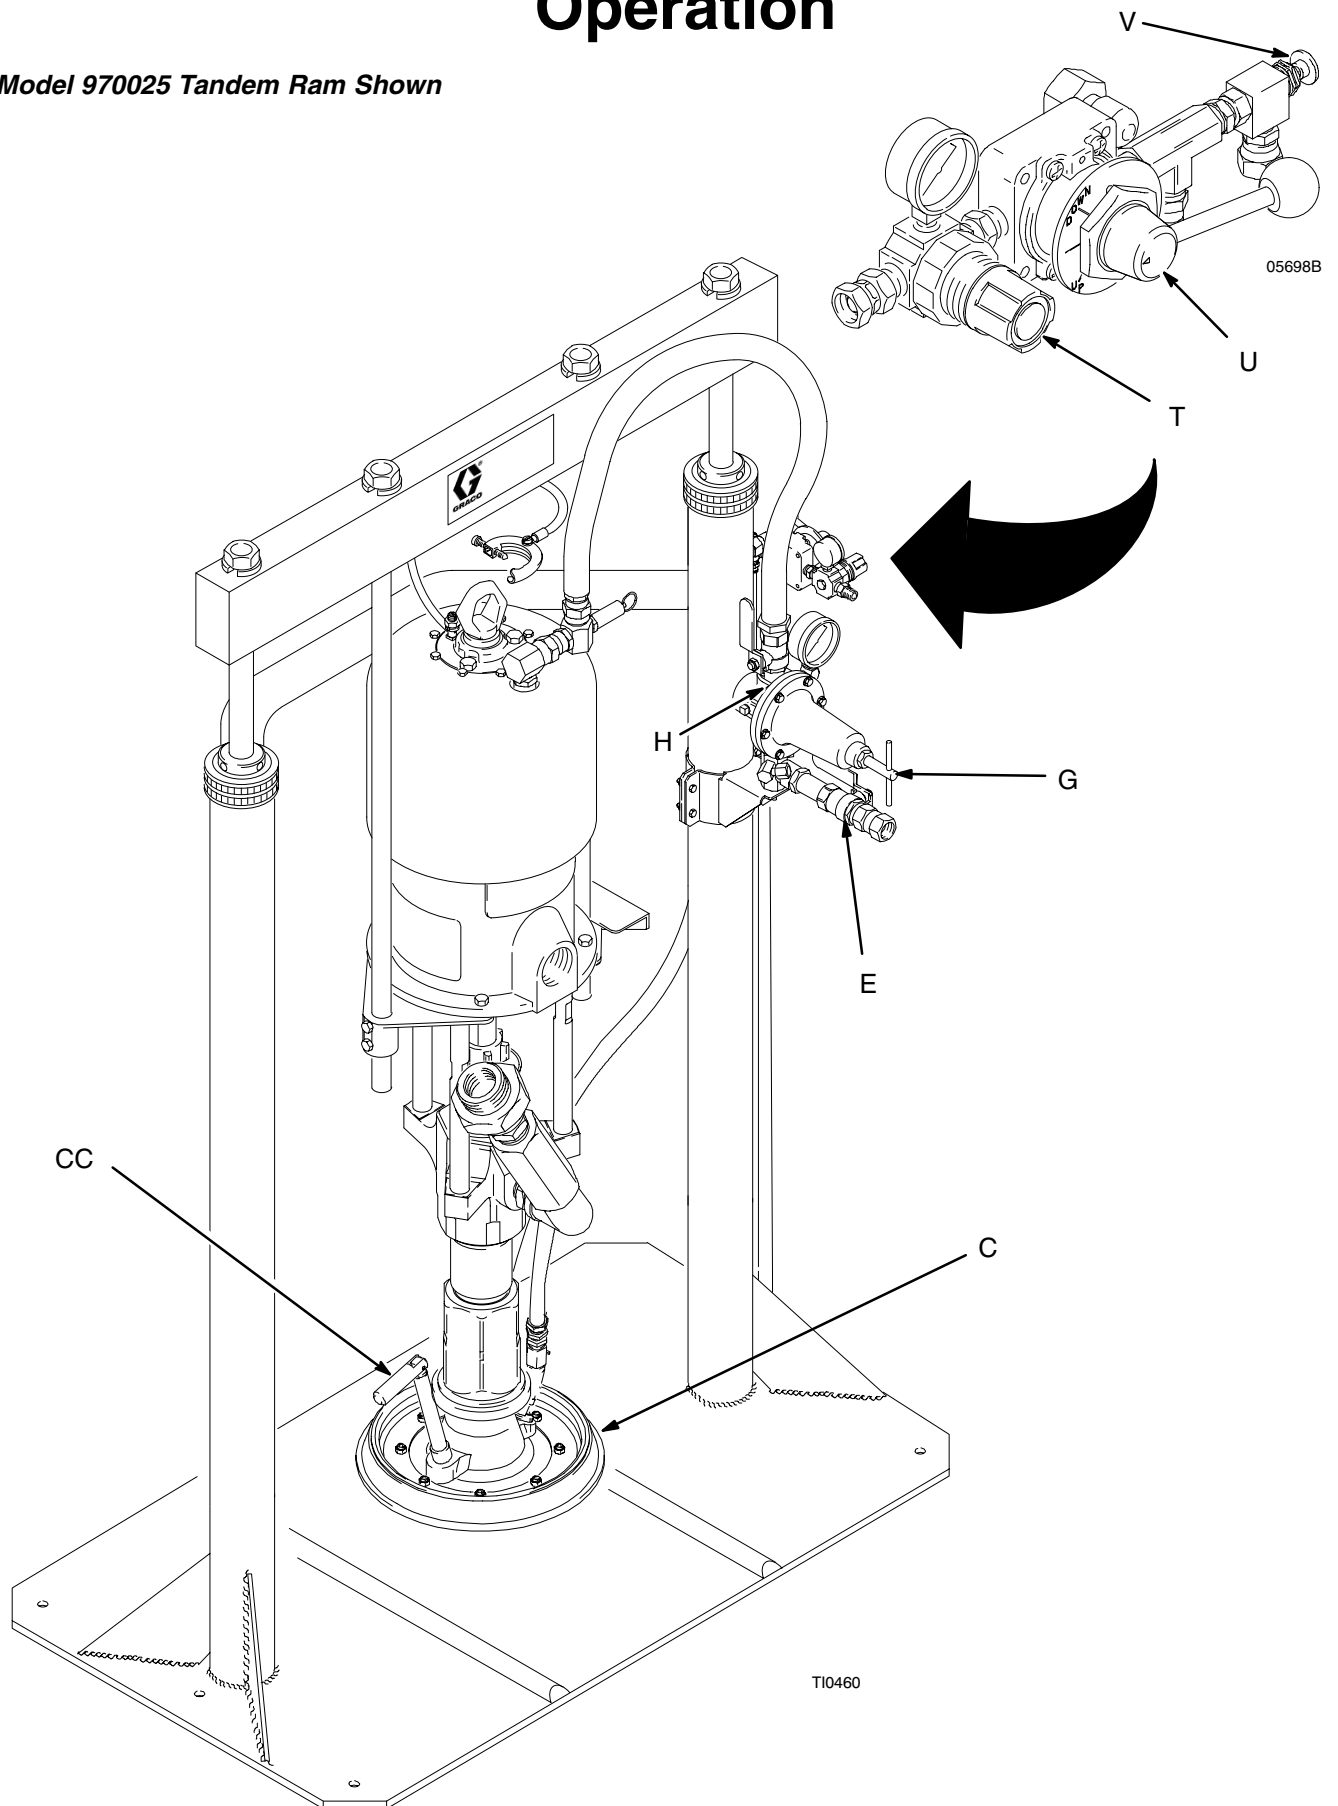

Fig. 6
3. Close pump air bleed valve (H, required in your system). See Fig. 1 or Fig. 6.
4. Shut off main air bleed valve (E, required in your system). Set ram director valve (U) to DOWN. Ram will slowly drop.
2. Close all air regulators and air valves. See Fig. 6.
3. Open main air bleed valve (E) and set ram air regulator (T) to 2.8 bar, 0.28 MPa (40 psi). Move director valve (U) handle so arrow points to UP, and let ram rise to full height.
4. Set full drum of fluid on ram base, slide drum back against tube stop, and center under ram plate (C). Center, hold, and properly align drum with ram.
1. Be sure pump air regulator (G) is closed. Set ram air regulator (T) to 3.5 bar, 0.35 MPa (50 psi). Set director valve (U) to DOWN. See Fig. 6.
3. Keep director valve (U) set to DOWN while pump is operating.
1. Stop pump. Close pump air bleed valve (H). See Fig. 6.
2. Before raising wiper plate, locate push button on air release valve (V).
3. Set director valve (U) to UP to raise wiper plate. At the same time, carefully equalize pressure in drum by operating air release valve.
1. Set director valve (U) to neutral. See Fig. 6.